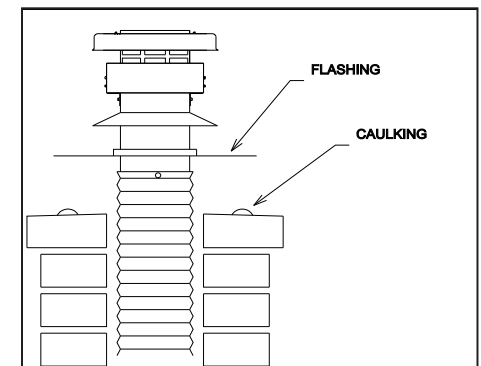

Figure 6
4.3 If clay tile liner does not extend above the crown, apply caulking directly to top of crown and sit FLASHING down flat on top of the crown. See Figure 6.